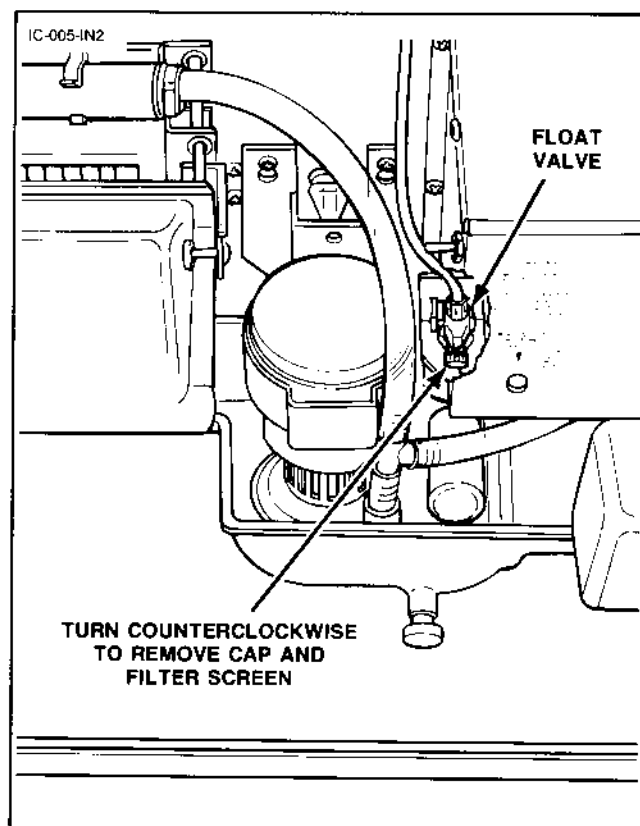

Figure 4
- ☐ Has filter screen in float valve been cleaned? See Figure 4.